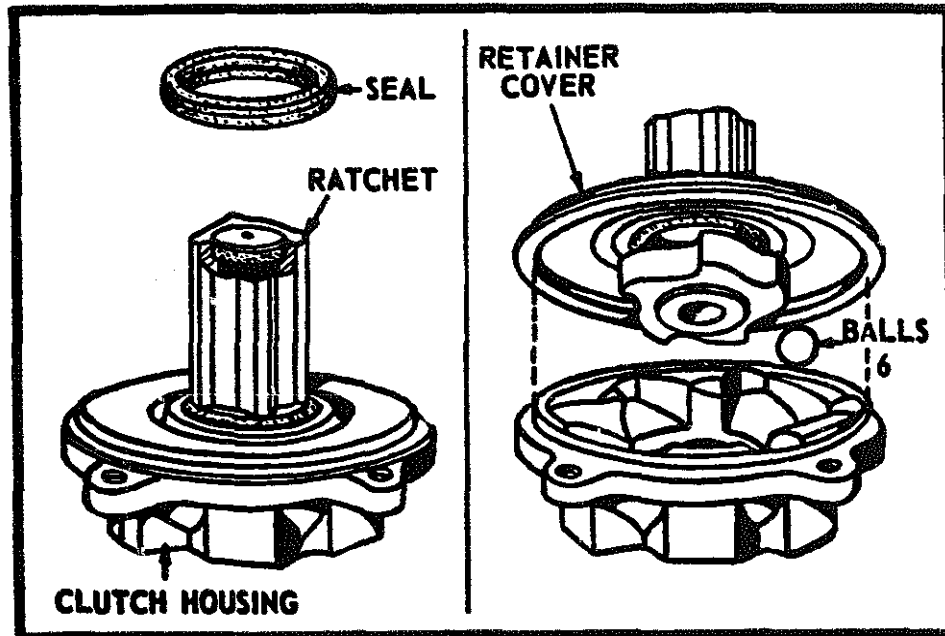

Fig. 5-1. The current production sprag clutch. (Courtesy International Harvester Corp.)
**Sprag Clutch.** Recoil and impulse starters drive through a sprag clutch that doubles as the flywheel nut. The clutch housing (Fig. 5-1) threads over the crankshaft. The sprag (*ratchet* in the drawing) is supported by a bushing on the crankshaft stub. Its outside end mates with the starter pulley, and its lower, or inside end, rides against four on six ball bearings in the starter housing. When rotated by the starter pulley, the sprag traps a ball bearing between it and the clutch housing, locking the starter to the crankshaft. Once the engine catches, the ball bearing releases, and the sprag idles on the bushing.